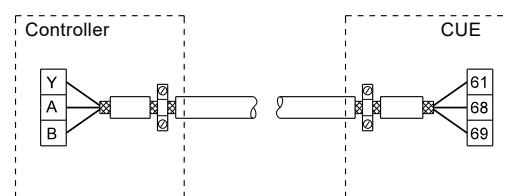
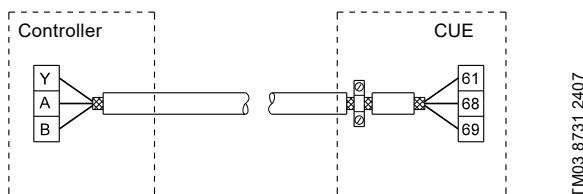

Fig. 155 Example of connection of a 3-conductor bus cable
Fig. 156 Example of connection of a 3-conductor bus cable with screen connected to CUE (controller with no cable clamps)
- Connect the screen to frame at both ends for both motor and signal cables. See fig. 155. If the controller has no cable clamps, connect only the screen to the CUE cabinet. See fig. 156.